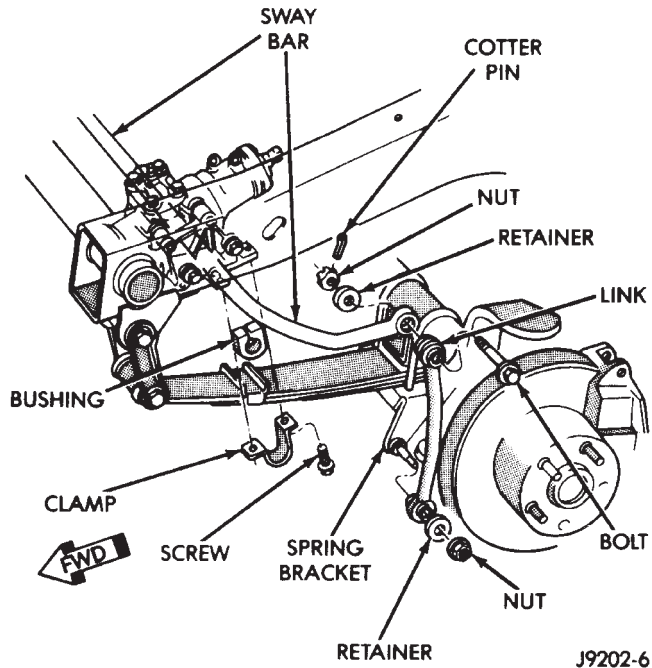

Fig. 2 Stabilizer Bar
- (1) Raise and support the vehicle.
- (2) Remove the retaining nut from the connecting link bolt (Fig. 2).
- (1) Inspect the stabilizer bar bushings (Fig. 2). Replace the bushings if cracked, cut, distorted, or worn.
- (2) Position the stabilizer bar on the frame. Install the retaining brackets and fasteners. Tighten bolts to 41 N·m (30 ft. lbs.) torque.
- (3) Install the link upper bolts and nuts. Tighten the nuts to 61 N·m (45 ft. lbs.) torque.
- (4) Tighten the link spring bracket nuts to 61 N·m (45 ft. lbs.) torque.
- (5) Lower the vehicle.